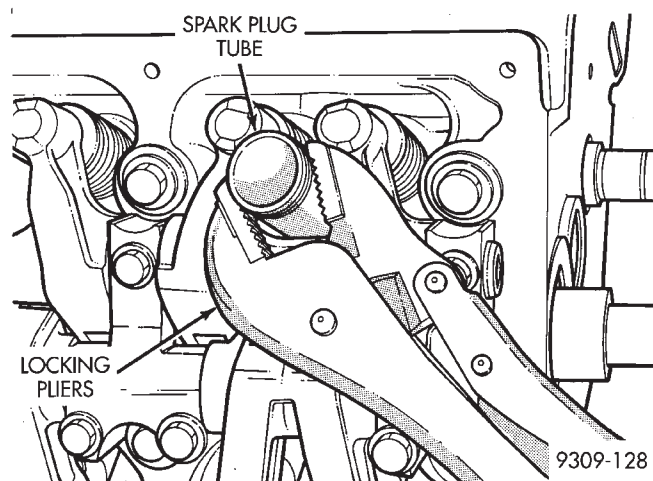

Fig. 35 Servicing Spark Plug Tubes
- (1) Remove cylinder head cover. Refer to procedure outlined in this section.
- (2) Using locking pliers remove the tube from the cylinder head (Fig. 35). Discard old tube.
- (3) Clean area around spark plug with MOPAR parts cleaner or equivalent.